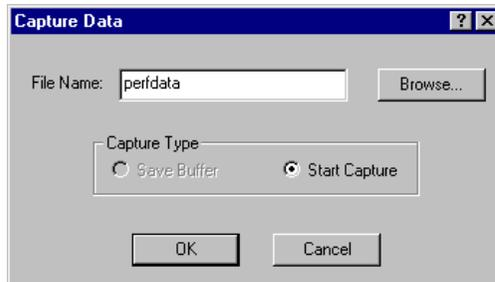

Figure 5-41. Capture Data to a File
1. Click Capture Data. A Capture Data dialog box is displayed (Figure 5-41).